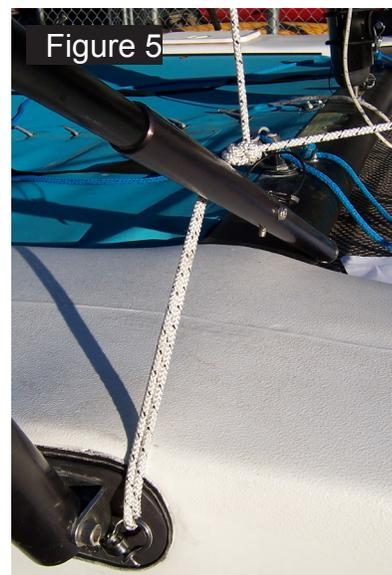

Figure 5
5) Shackle the pole side-to-side bridle line "loops" to the tangs installed (Figure A) using two of the provided shackles. If a seat is installed, position the seat in the sailing position. Route the lines over the strut then down and in front of the wing leg as shown in figure 5.